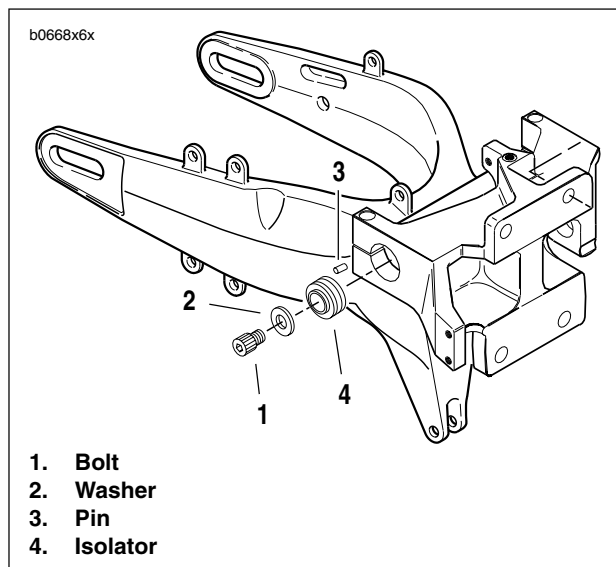

Figure 6-7. Isolators (Typical)
9. See Figure 6-7. Remove right rubber isolator (4). See 2.20 REAR ISOLATORS.
2. See Figure 6-7. Install right rubber isolator. See 2.20 REAR ISOLATORS.